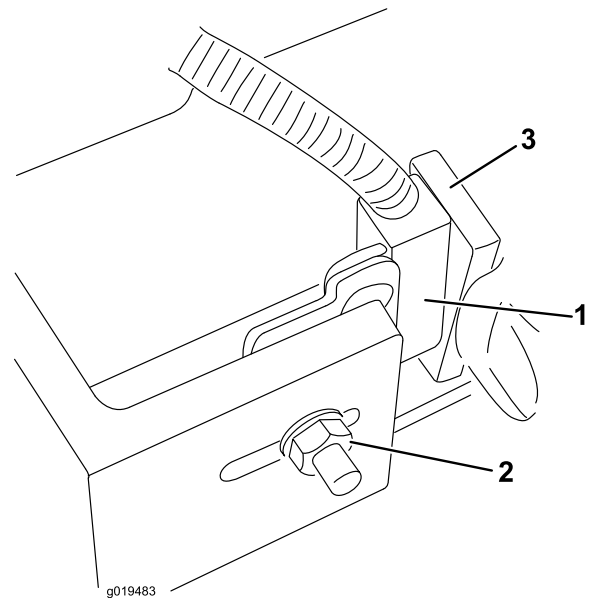

Figure 84
- Loosen the carriage bolt nut securing the lift arm switch bracket to the #4, 6 or 7 lift arms (Figure 84).